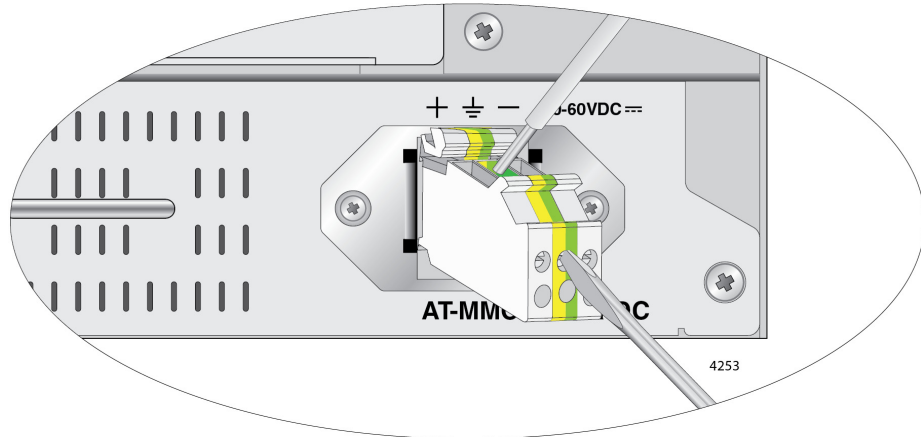

Figure 22. Connecting the Frame Ground Wire
4. Connect the frame ground wire to the terminal marked with the ground symbol by inserting the wire into the terminal block and tightening the connection with a flathead screwdriver, as shown in Figure 22.